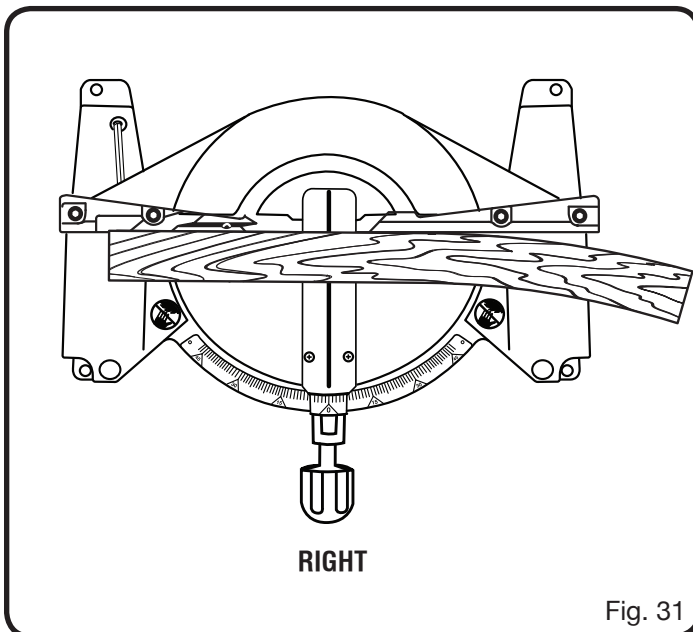

Fig. 31
- Place the workpiece flat on the miter table with one edge securely against the fence. If the board is warped, place the convex side against the fence. If the concave edge of a board is placed against the fence, the board could collapse on the blade at the end of the cut, jamming the blade. *See Figures 31 - 32.*
See Figures 31 - 32.
When cutting warped material, always make sure it is positioned on the miter table with the convex side against the fence as shown in figure 31.